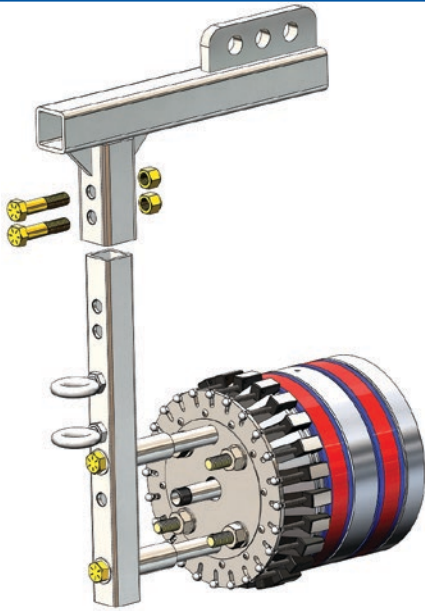

Figure 16: Aligning and Fastening Telescoping Lifting Attachment onto Universal Lifting Bar
- After fastening the *Telescoping Lifting Attachment*(22) to the *Lifting Standoffs*(23), slide it into the *Universal Lifting Bar's*(21) shorter square tubing. Upon insertion, align the two holes on both the *Telescoping Lifting Attachment*(22) and the *Universal Lifting Bar*(20).
- Fasten the *Telescoping Lifting Attachment*(22) with the provided *Lifting Bolts*(24) and *Nuts*(26) (see Figure 16).